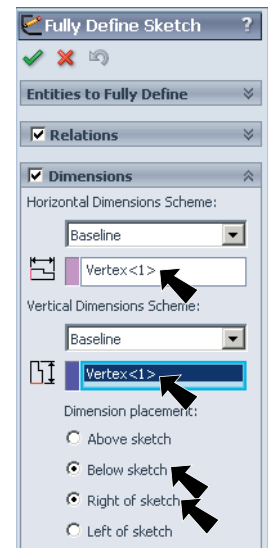
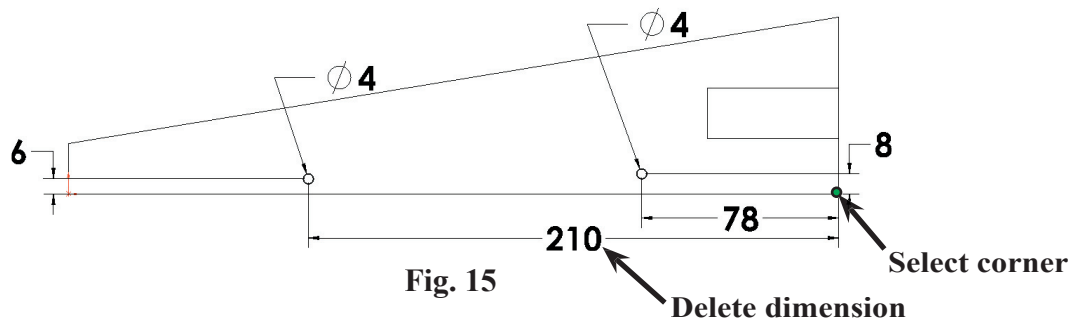

Fig. 14
Fig. 15
under **Horizontal Dimensions**, Fig. 14
click in the Datum box and click the **bottom right corner** of the body, Fig. 15
click in the Datum box, Fig. 14 and click the **bottom right corner** of the body, Fig. 15
Right of sketch, Fig. 14 and click OK
Step 6. Set the dimensions as shown in Fig. 15.
Step 7. Delete the dimension between the front wheel and the back edge, Fig. 15. To delete dimension, click the dimension and press the delete key.